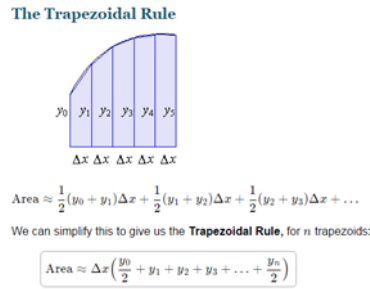

Figure 69 Trapezoidal Rule
- ii Evaluate total area below 0 volt by using Trapezoidal Method Area Calculation (refer to Figure 69)